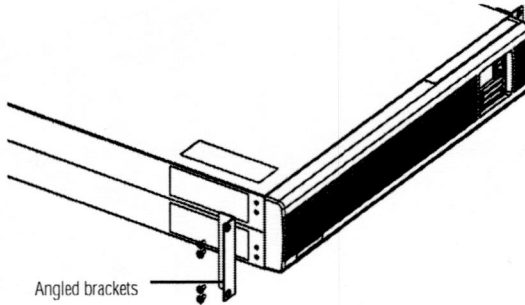

Fig. 8: Attaching Angled Brackets (700, 1000, 1500 models)
2. Place four (4) of the #6-32 screws provided through the four round single holes in each bracket on each side (fig. 8). Use all eight (8) #6-32 screws provided for the ON2000 UPS on each side.